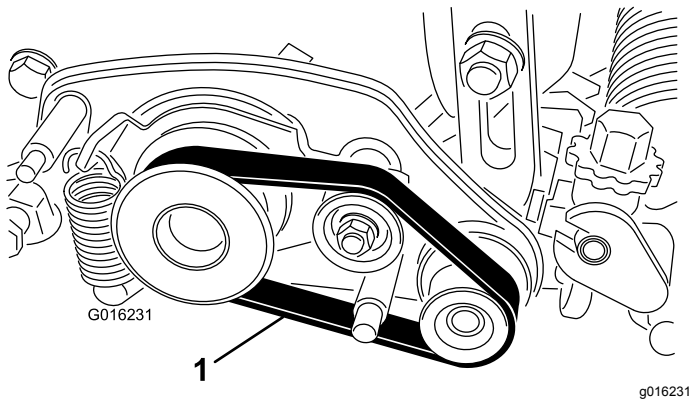

**Figure 1**
1. Remove the belt cover from the groomer housing (Figure 1).